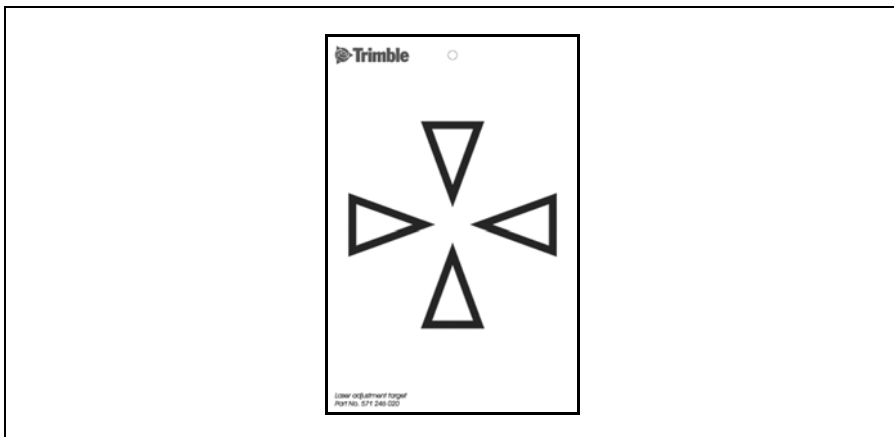
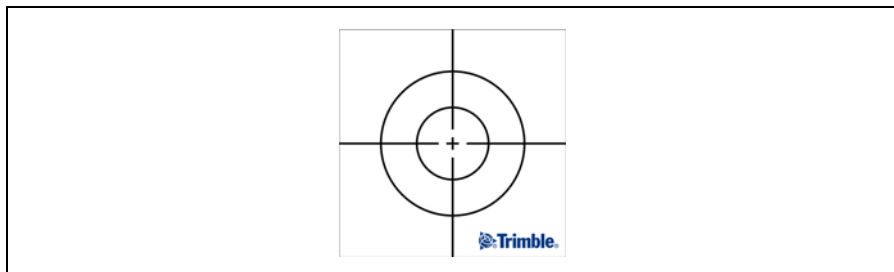

Figure 4.31 Adjustment target for DR PLUS
Figure 4.32 Adjustment target with reflective foil for High Precision
3. If the red laser spot lies outside the cross-hairs, adjust the direction of the beam until it matches the cross-hairs, see Figure 4.31 or see Figure 4.32